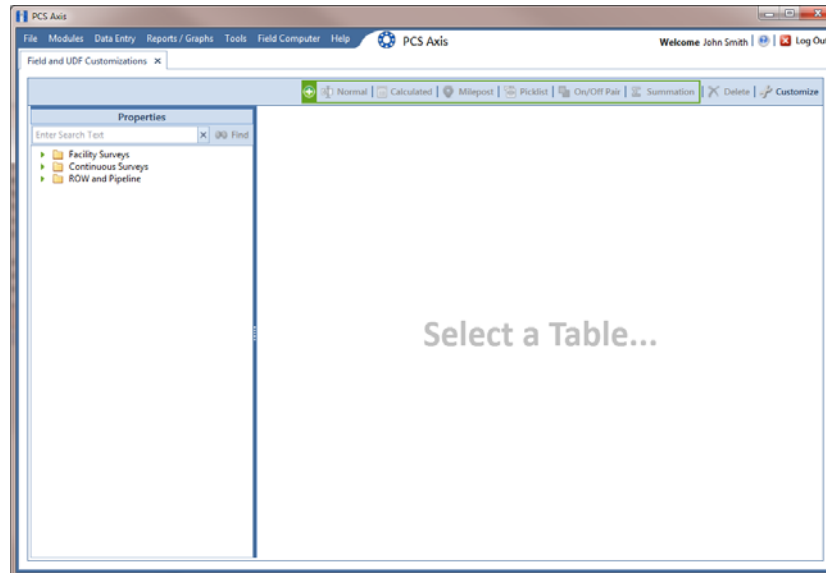

Figure 3-25. Field and UDF Customizations
- 1 Click **Tools > Field and UDF Customizations** to open the *Field and UDF Customizations* window (Figure 3-25).
- 1 Click **Tools > Field and UDF Customizations** to open the *Field and UDF Customizations* window (Figure 3-25, page 66).
- 1 If the *Field and UDF Customizations* window is not open, click **Tools > Field and UDF Customizations** (Figure 3-25, page 66).